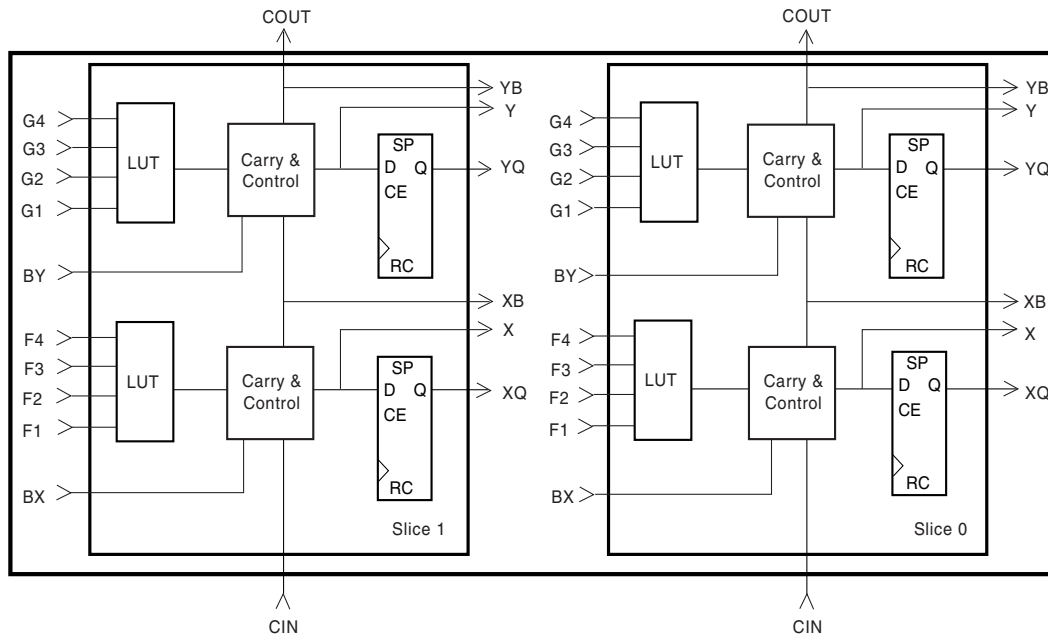
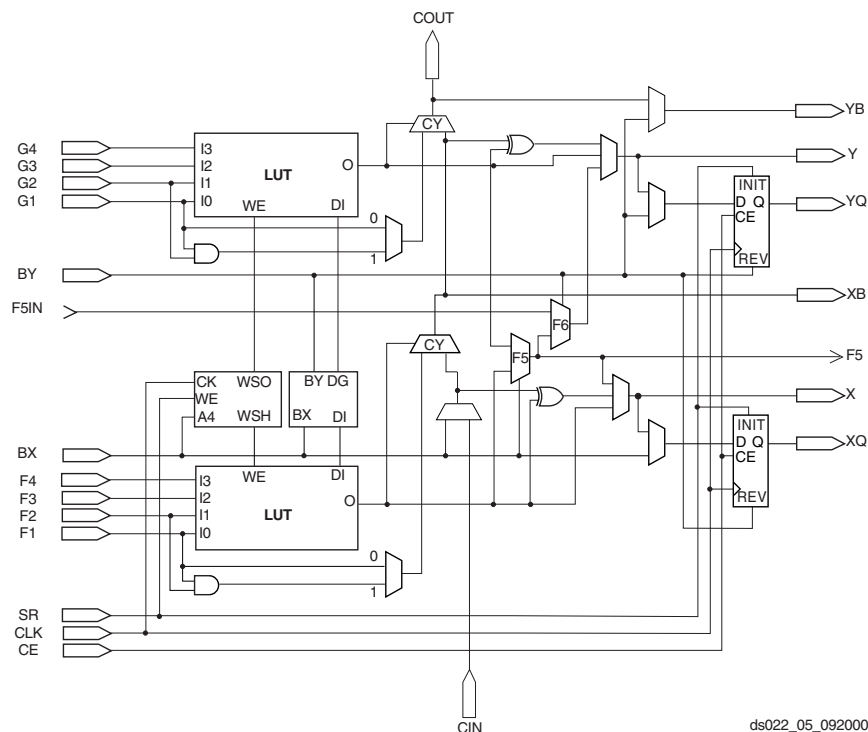

Figure 4: 2-Slice Virtex-E CLB
Figure 5: Detailed View of Virtex-E Slice
The basic building block of the Virtex-E CLB is the logic cell (LC). An LC includes a 4-input function generator, carry logic, and a storage element. The output from the function generator in each LC drives both the CLB output and the D input of the flip-flop. Each Virtex-E CLB contains four LCs, organized in two similar slices, as shown in Figure 4. Figure 5 shows a more detailed view of a single slice.